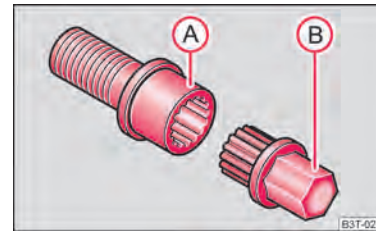

Fig. 191 Illustration image: Safety wheel bolt with adapter
- Insert the adapter (B) with its toothed side fully into the inner tothing of the safety wheel bolt (A) right down in such a way that only the outer hexagon is jutting out  $\Rightarrow$  fig. 191.
- Insert the wheel wrench fully onto the adapter (B).